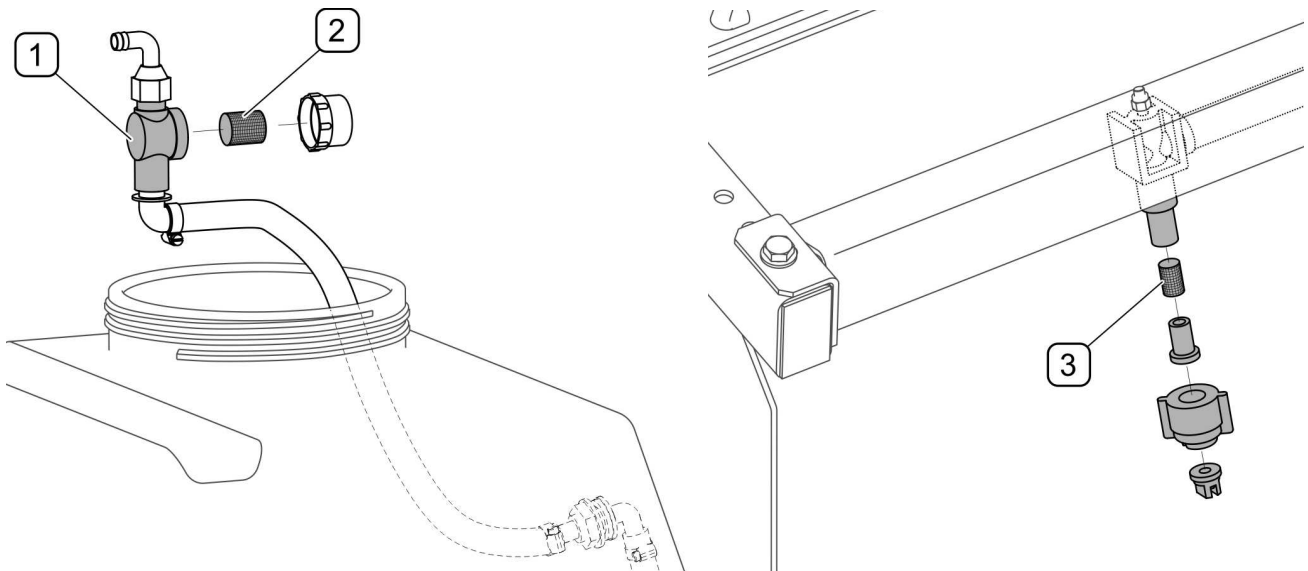

FIG. 5.10 Water Filters
Maintenance of the sprinkler system consists of periodic inspection of the water system and cleaning (FIG. 5.10) of water filters (2) and (3).
The sprinkler system includes a water filter (2) installed in a water tank on the suction line, which captures the grit and also strainers (3) installed in each sprinkler (FIG. 5.10). To clean the filter (2), remove the filter and the line through the tank inlet opening, dismantle the filter housing and remove the strainer (2), and then pressure wash or clean with compressed air. After replacing the strainer reassemble filter housing and check for leaks. To clean the